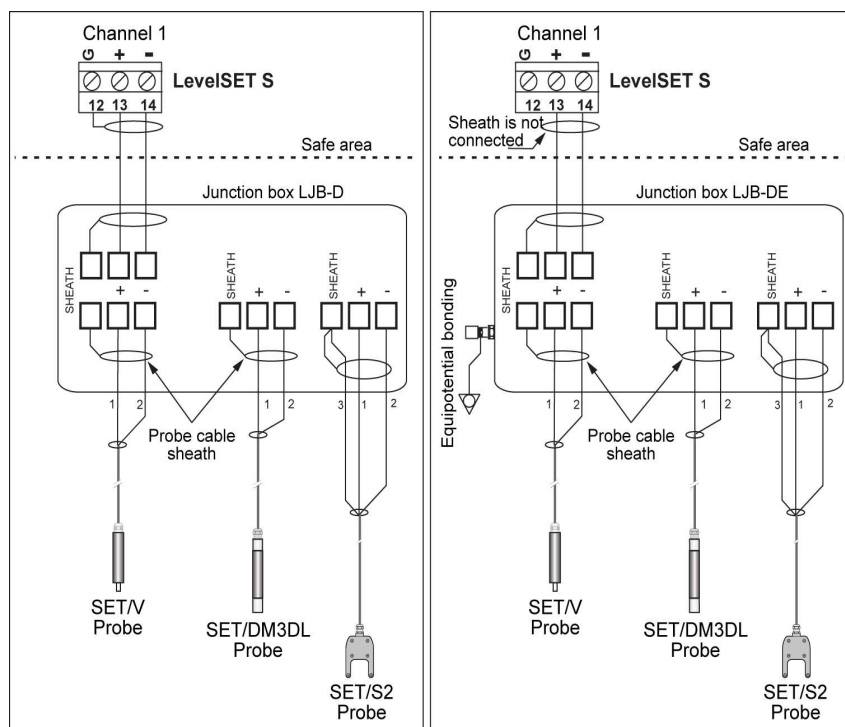

Figure 4. Cabling with junction boxes LJB-D and LJB-DE
Example figure 4 illustrates that the cable sheaths and the extra wires are connected to the same point in the junction box. This point is connected to the equipotential bonding via grounding screw on the side of junction box LJB2, LJB3 or LJB-DE (the right-hand side example in figure 4). Also other conductive parts that can be connected to the equipotential bonding may be connected to the grounding screw.
If the equipotential bonding system is not in use, the cable sheath is connected to the connector (G) on the supplying device. In this case, equipotential bonding is not brought to the junction box, and the junction box must be isolated electrically from the liquid being measured and any conductive parts. In this case it is recommended to use the plastic Labkotec LJB-D box (the left-hand side example in figure 4).